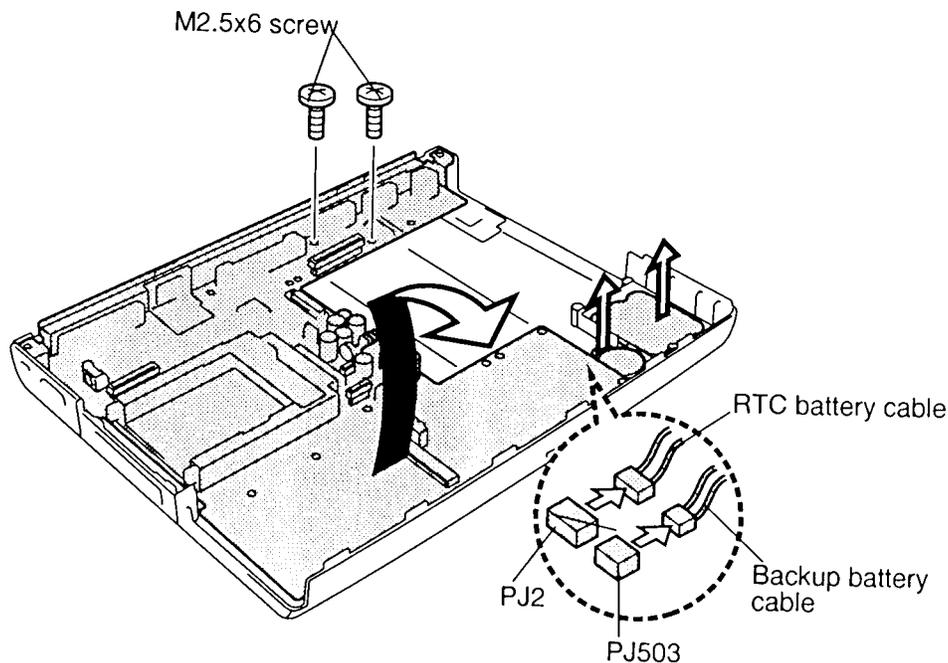

Figure 4-21 Removing the system board
To remove the T2150 series system board and backup/RTC batteries, follow the steps below and refer to figure 4-21.
3. Remove **two M2.5x6 screws** on the system board (figure 4-21).
4. Push in the I/O port and system board to clear the frame, then lift up the system board with its cover (figure 4-21).
5. Disconnect the **RTC battery cable** from **PJ2** and lift out the **RTC battery** (figure 4-21).
6. Disconnect the **backup battery cable** from **PJ503** and lift out the **backup battery** (figure 4-21).
To install the T2150 series system board and backup/RTC battery, follow the steps below and refer to figure 4-21.
2. Connect the **backup battery cable** to **PJ503** on the system board (figure 4-21).
3. Connect the **backup battery cable** to **PJ2** on the system board (figure 4-21).
4. Secure **two M2.5x6 screws** on the system board (figure 4-21).